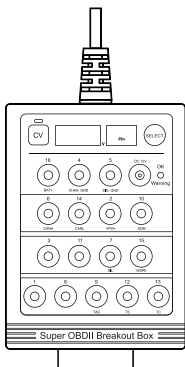

Figure 2
1. This device has a total of 18 status indicators and one buzzer. The 16 indicators next to the PIN are the status indicators of the corresponding pin, "OK/Warning" is the power indicator, which will turn green when the power supply voltage is normal condition while red LED means voltage is abnormal. Connect the OBDII male connector in the front of the OBDII diagnostic socket to the car, (as shown in Figure 2), if the power supply voltage is normal and the ground connection is not faulty, the power LED on the host panel will be green, and the status indicator of PIN16 (power pin) will be lit.